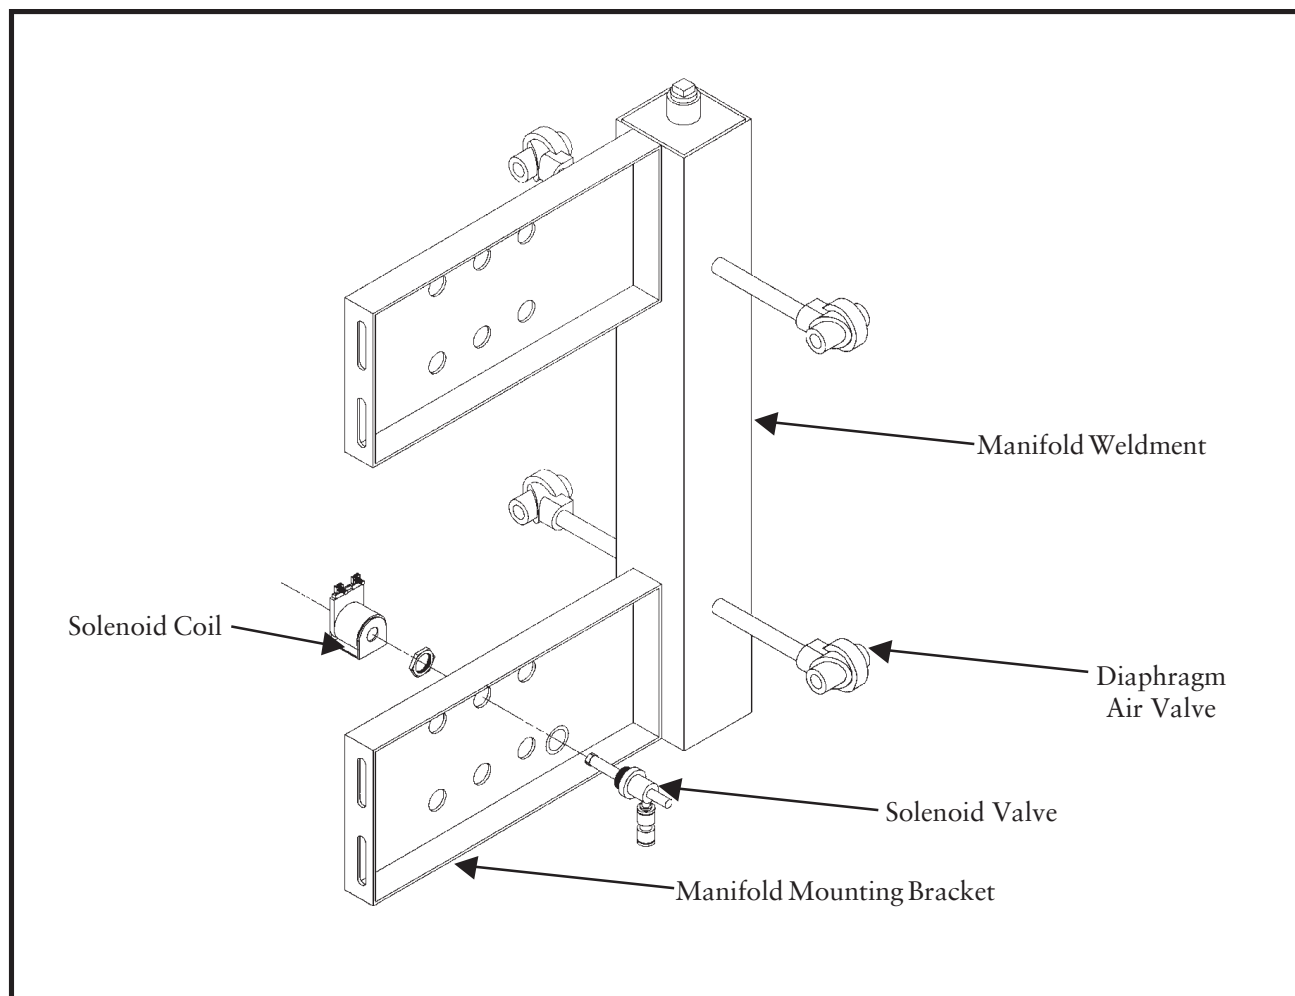

Figure 37
2.7.1 Air Manifold Assembly (See Figure 37 Air Manifold Assembly)